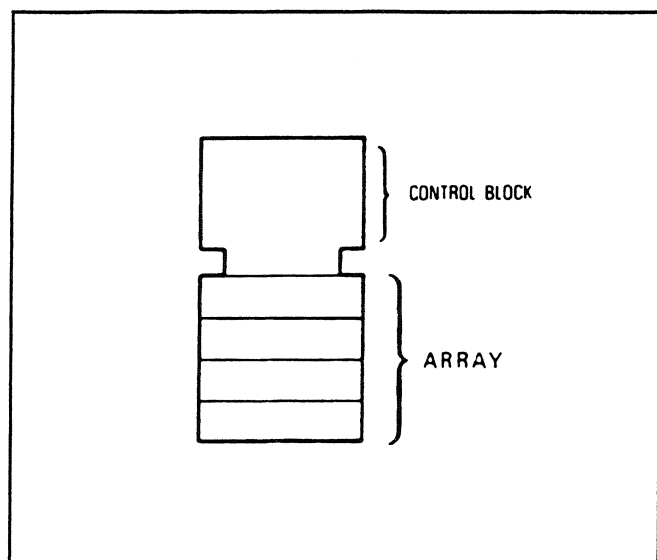
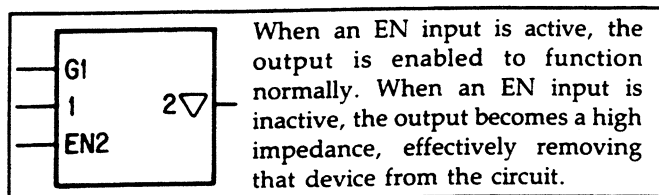

Figure A-5 Common Control Block
**Figure A-7. Quad D-Type Latch (Combined)**
**Common Control Block.** The Control block is used in conjunction with an array of related symbols in order to group common logic lines. Figure A-5 shows how the Control block is usually represented. Figure A-6 shows a quad D-type flip-flop with reset. This can be redrawn as shown in Figure A-7. Note that the more complex representation shown in Figure A-6 can be used when the flip-flops are functionally scattered around the schematic (i.e., not used as a quad unit).